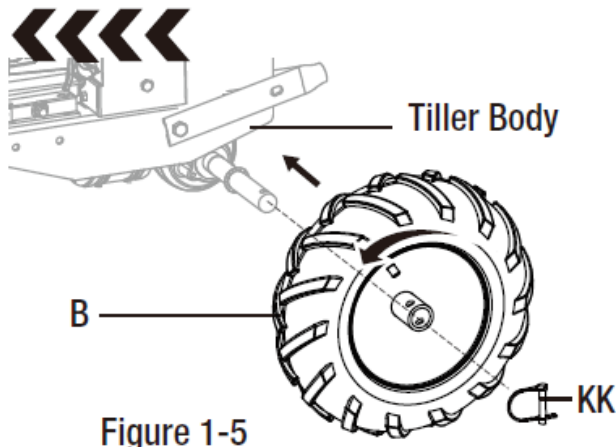

Figure 1-5
Insert the wheel (B) through the axle on the tiller body. Then place the wheel pin (KK) through the hole on wheel through the hole on the axle to secure the wheel in place. See Figure 1-5.